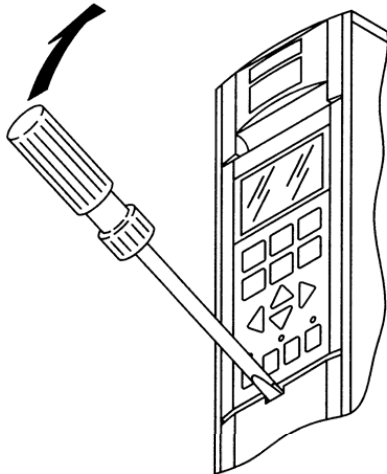

FIGURE 5 - VLT6000 CONTROL TERMINAL BLOCK LOCATION
4. Access the VLT6000 control terminal blocks. See Figure 5.